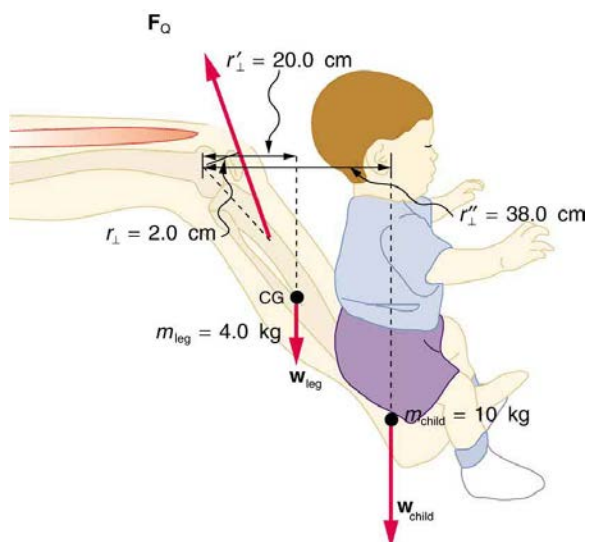

Figure 9.43 A child being lifted by a father's lower leg.
34. A father lifts his child as shown in **Figure 9.43**. What force should the upper leg muscle exert to lift the child at a constant speed?